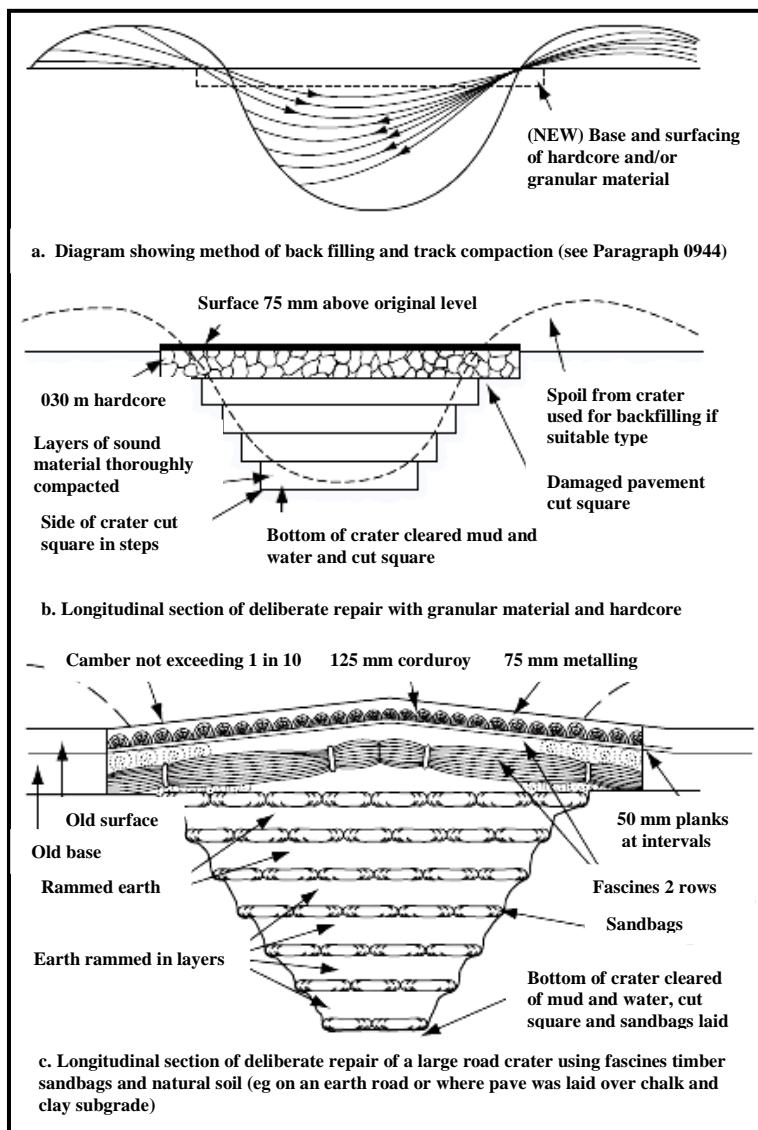

Figure 27-5: Method of Repairing Large Craters.
- b. Unless the spoil thrown up is very silty or clayey the best method is to back fill with a tracked dozer (see Figure 27.5 (a)). Work the soil into the hole from one side to form a ramp. As soon as the dozer can move in and out of the crater, push spoil in from all round and track compact it in layers about one feet thick.
- c. A slower but more reliable method is to cut the bottom level in sound material and to cut the sides in steps (see Figure 27.5 (b)). Fill the crater with sound material, compacting each 6 in to 1 ft layer either mechanically by crawler tractor or by hand ramming. Finish the fill to a slight crown to allow for settlement and provide surfacing. If the available filling material is of poor quality, alternate layers of filled sandbags and compacted soil can be used, but maintenance will be necessary to make good settlement (see Figure 27.5 (c)).